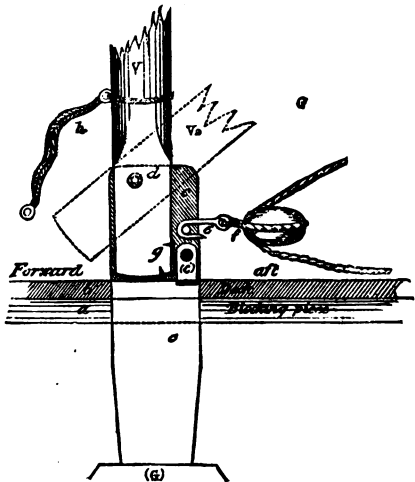

Fig. 104.
The tabernacle for lowering the mast may be fitted as follows (Fig. 104): Two pieces of oak, *c*, are secured at the heels by a block, (G), and pass up through a blocking piece, *a*, and through the deck, *b*. The heads of the oak pieces are each $3\frac{1}{2}$ in. high by $2\frac{1}{2}$ in. wide, fore and aft, and half an inch thick, the heels being tapered down.